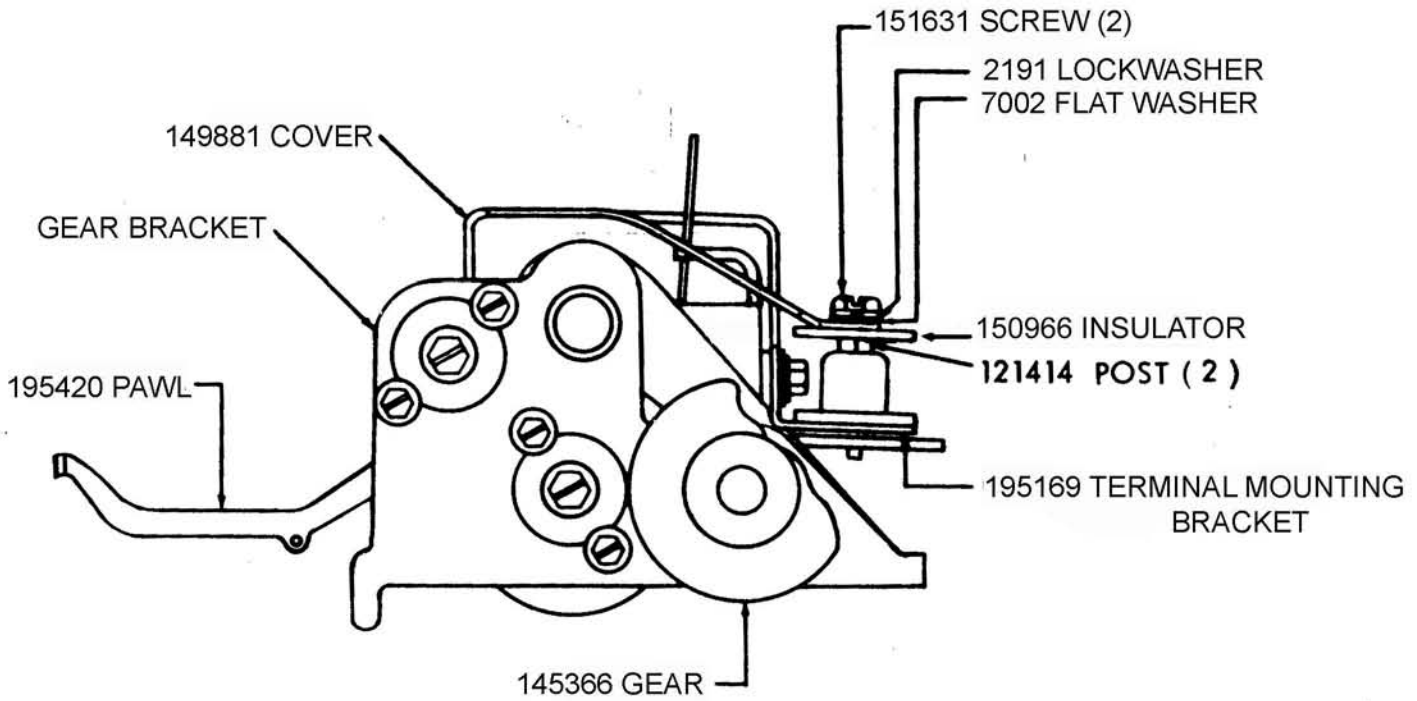

FIGURE 4
- 2.13 If a time delay mechanism is to be used, insert the 195420 pawl into the gear bracket assembly. The open end of the pawl fits on the eccentric hub of the 195418 gear as shown in Figure 4.
- 2.15 Mount 149881 cover on top of terminal block as shown in Figure 4. Replace the original screws in the 151335 posts with two 151631 screws. Add two 7002 flat washers.